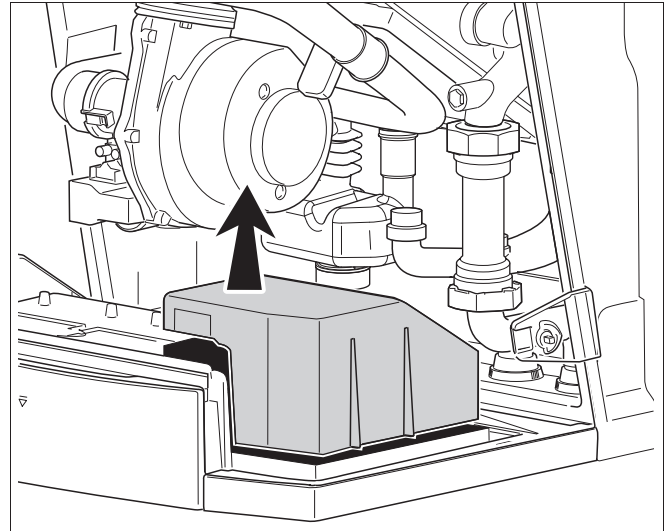

Fig. 28 Removing the cover from the external connection box
- Remove the cover of the external connection box (see fig. 28).